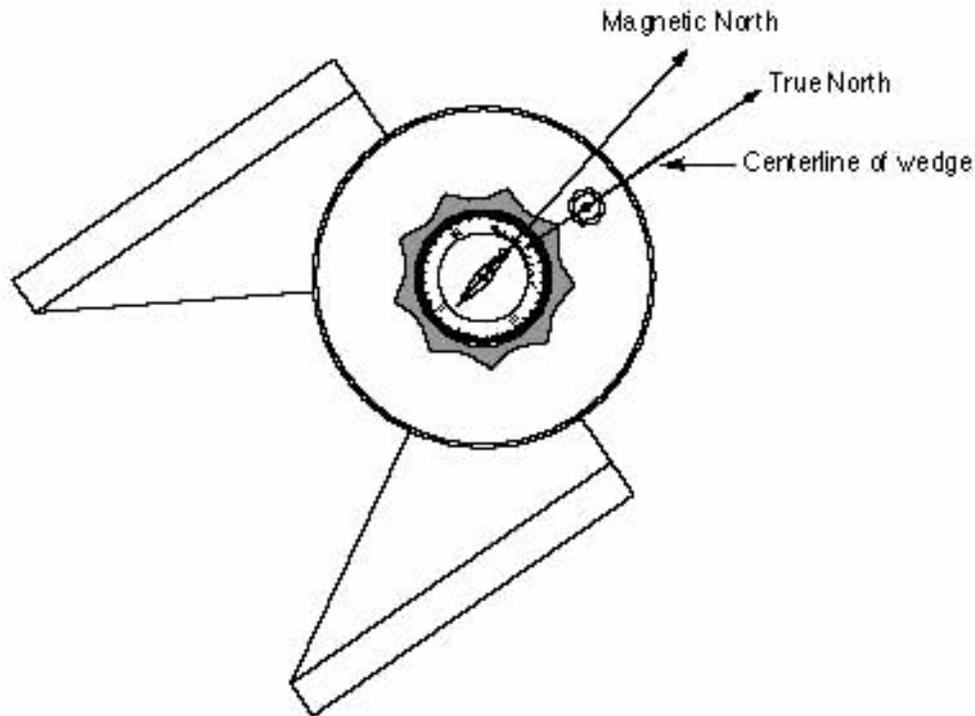

Fig. 19: Equatorial Wedge
3. Rotate the Equatorial Wedge in azimuth (without moving the knob/compass) until the centerline of the wedge lines up with the point of the knob/compass (**Fig. 19**). The centerline of the Equatorial Wedge now falls directly on the true north line.